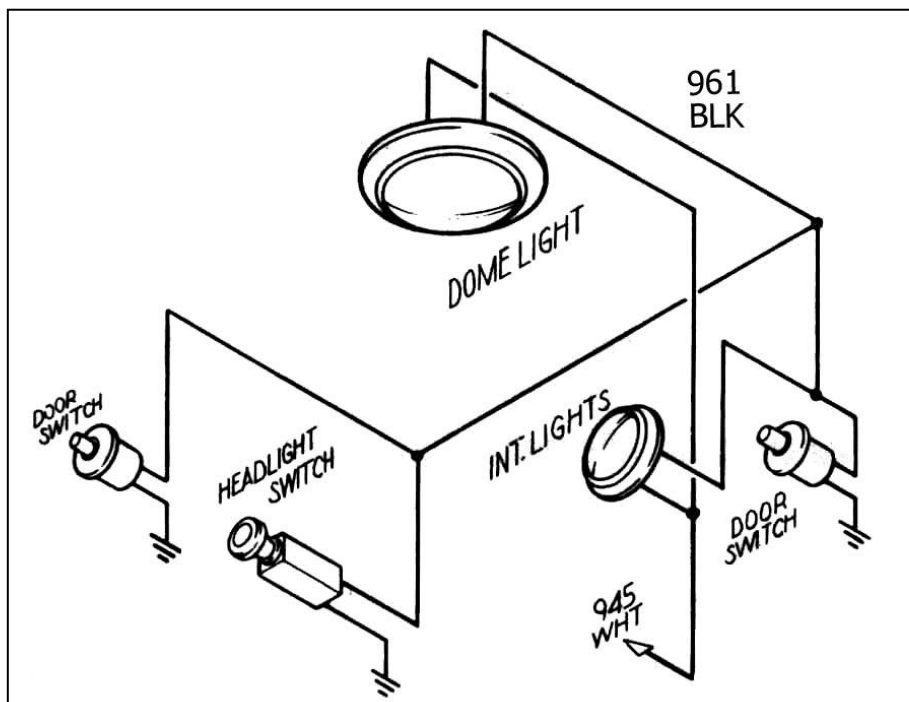

Figure 17-1 Interior Lighting (GM Style Jamb Switch – Painless Part #80170)
17.0 Interior Lighting. See Figure 17-1
- 17.0.1** Interior Lights are switched through the door switches and the dash-mounted headlight switch, which is usually rotated counter-clockwise to turn on. These switches apply ground to the circuit. YOU WILL NEED TO SUPPLY THESE GROUND WIRES. 12V is continually present at the light bulbs. See **Figure 17-1**.